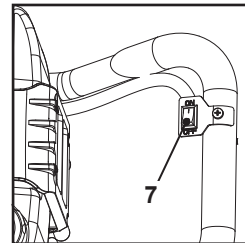

Fig. 10
2. Set the ignition switch (7) OFF at "O" position (Fig. 10).